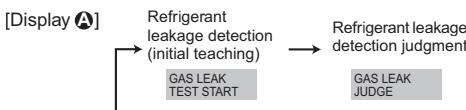

Fig. 8-2
- ② Press **CLOCK** (▼) button and select the [GAS LEAK TEST START] (Fig. 8-2)